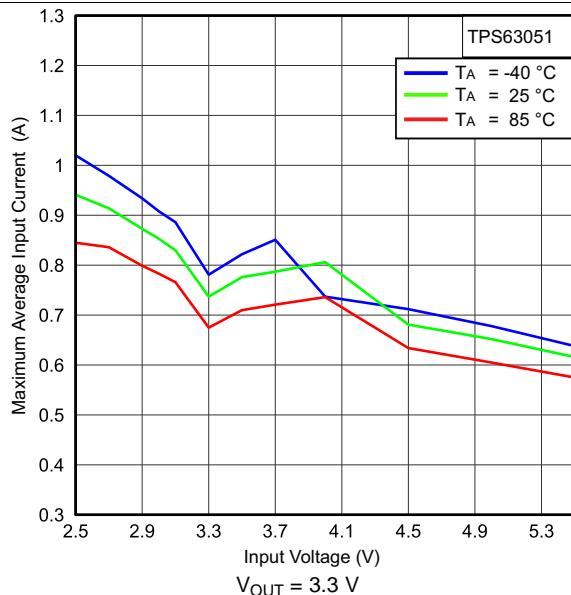

Figure 1. Maximum Average Input Current vs Input Voltage
(1) For minimum and maximum output current in a specific working point see Figure 1 and Figure 2; and Equation 1 through Equation 4.
(2) Conditions: $T_J = -40^\circ\text{C}$ to 85°C
(3) Conditions: $f = 2.5$ MHz, $L = 1.5$ μH , $C_{OUT} = 10$ μF
The TPS6305x devices have an internal user programmable current limit that monitors the input current during start-up. This prevents high inrush current protecting the device and the application. During start-up the input current does not exceed the current limit that is set by I_{LIM0} pin and I_{LIM1} pin. Depending on the logic level applied at these two pins, switching between four different current limit-levels is possible. The variation of those values over input voltage and temperature is shown in Figure 1 through Figure 2. Adjusting the soft-start time further using the soft-start capacitor is possible.
Given the curves provided in Figure 1 through Figure 2, calculating the output current in the different condition in boost mode is possible using Equation 1 and Equation 2 and in buck mode using Equation 3 and Equation 4.